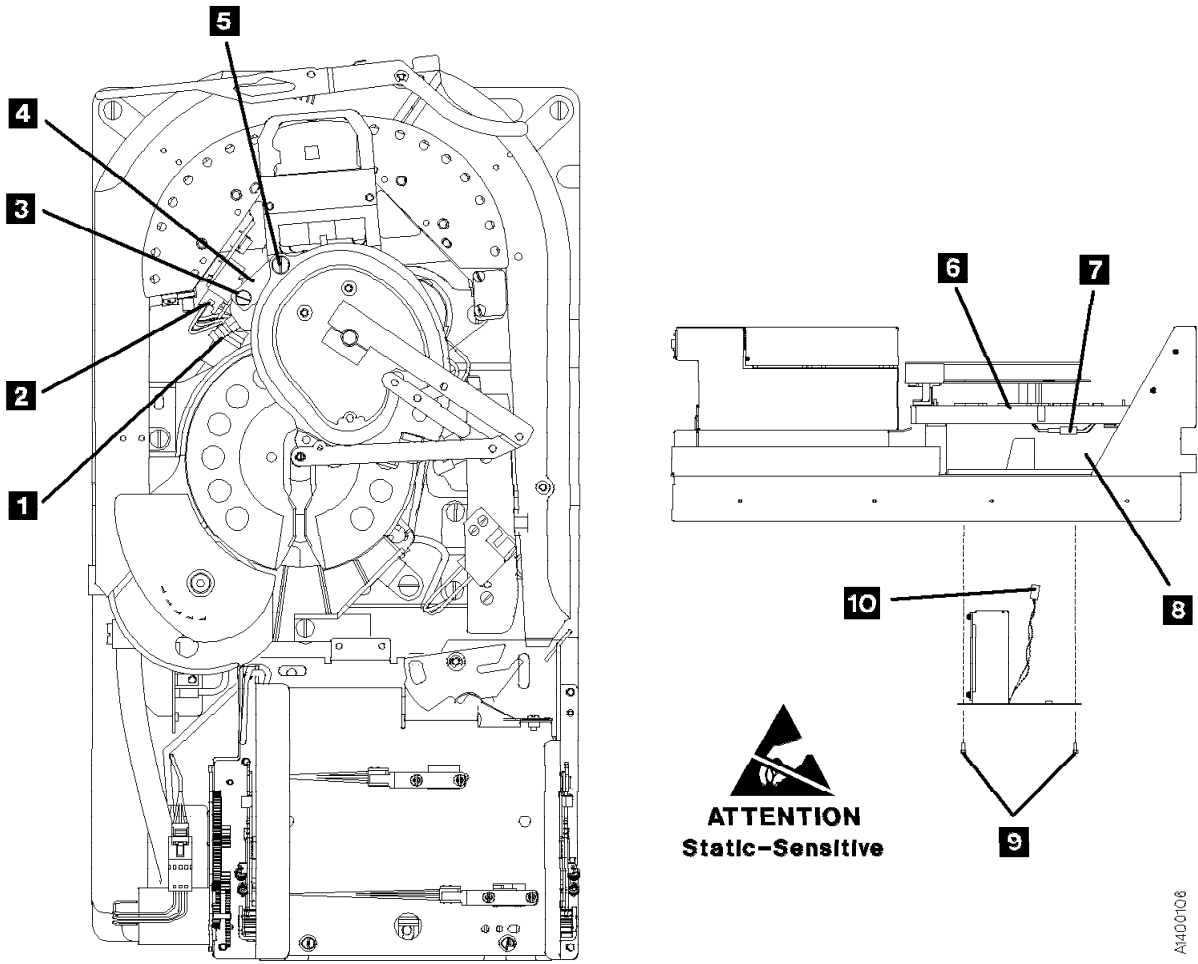

Figure 325. Tape-Lifter Solenoid
4. See Figure 325 on page LOC*CAR-65. Remove the large hose **1** from the tape-lifter solenoid.